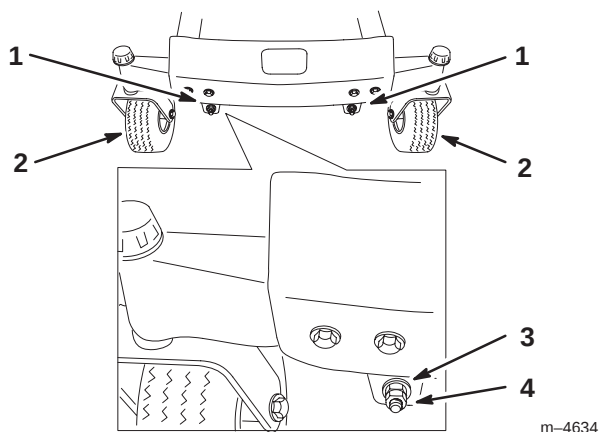
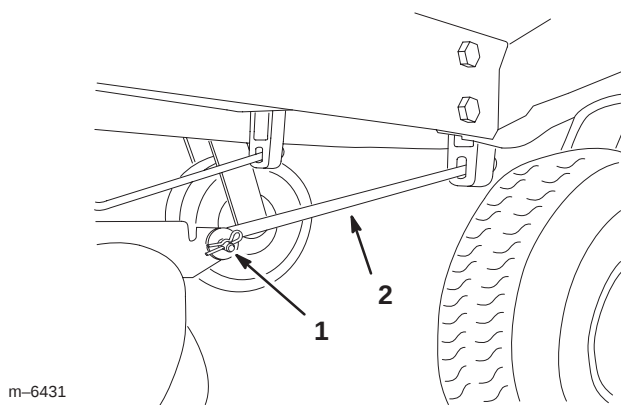

Figure 43
Figure 45
10. To adjust the front-to-rear blade slope, remove the locknuts and then rotate the adjustment nuts in the front of the mower (Fig. 43).
12. After adjusting both adjustment nuts evenly, check the front-to-rear slope again. Continue adjusting the nuts until the front blade tip is 1/16–5/16 inch (1.6–7.9 mm) lower than the rear blade tip (Fig. 43).
Note: After adjusting the adjustment nuts, make sure there is **no slack** in either support rod (Fig. 45). Tighten either one to remove the slack (Fig. 43).
4. Remove the hairpin cotter and clevis pin from the front support rod on each side of the mower.(Fig. 45).
7. Attach the front support rods to the tractor with the clevis pins and hairpin cotters (Fig. 45).